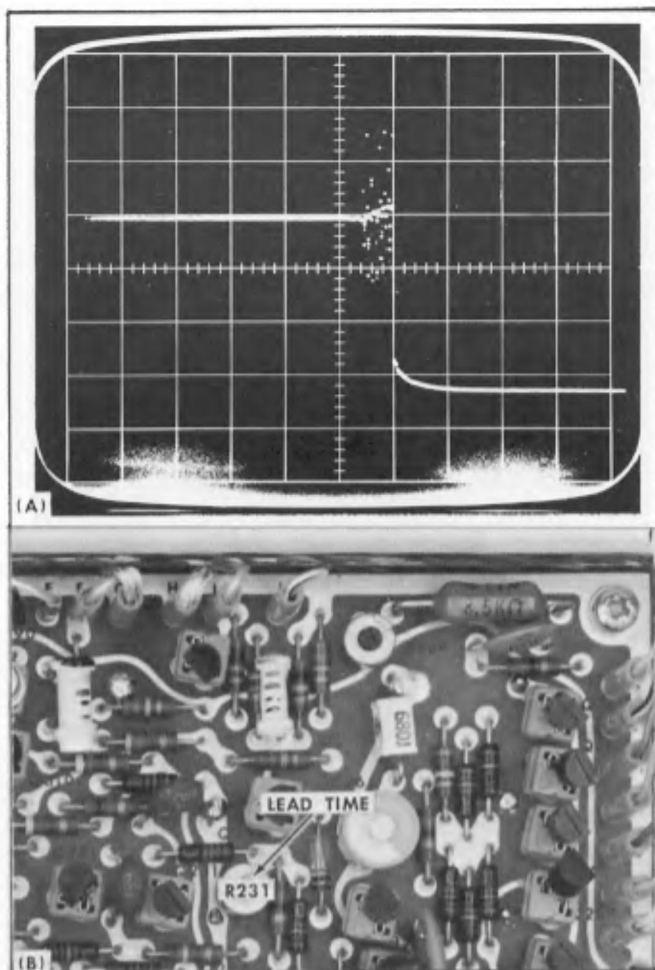

Fig. 7-26. Adjustment of Lead Time (A) Display and (B) Location on Trigger Board Assembly, right side of instrument.
c. Set the START POINT switch to BEFORE TRIGGER and check that the falling edge of the waveform is at the sixth graticule line, see Fig. 7-26(A).